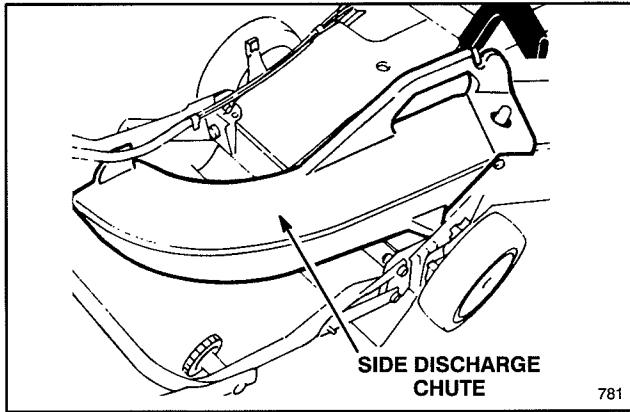

Figure 29
- 2. Side Discharge Kit, Model 59189**—Install discharge tunnel and rear mounting side discharge chute to convert Recycler II® Super Pro® mower to a side discharge mower (Fig. 29). Includes discharge tunnel plug.